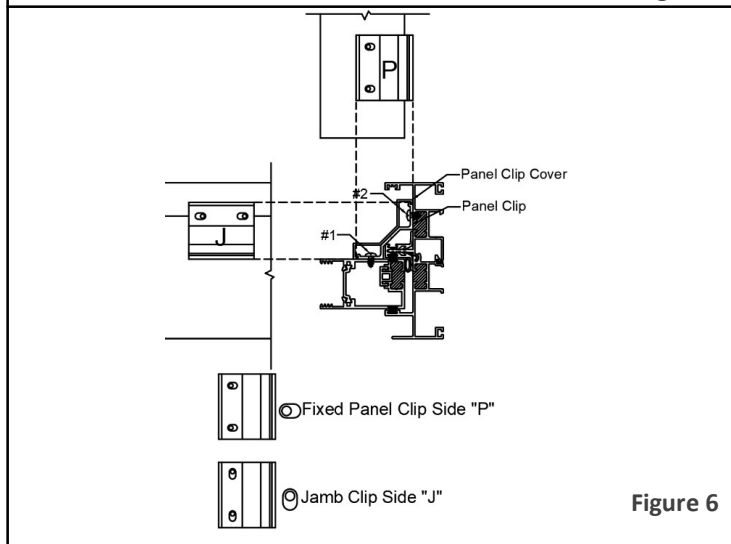

Figure 6
3.3a First fasten the fixed panel clip to the vertical rail of the fixed panel with #8x3/4" screws (as shown #1, figure 6) as indicated by the predrilled holes on the fixed pull rail. One at top and one at bottom.
3.3b Now fasten the fixed panel clip to the jamb with #8x3/4" screws (as shown #2, figure 6) as indicated. Now place fixed panel clip covers over the fixed panel clips.